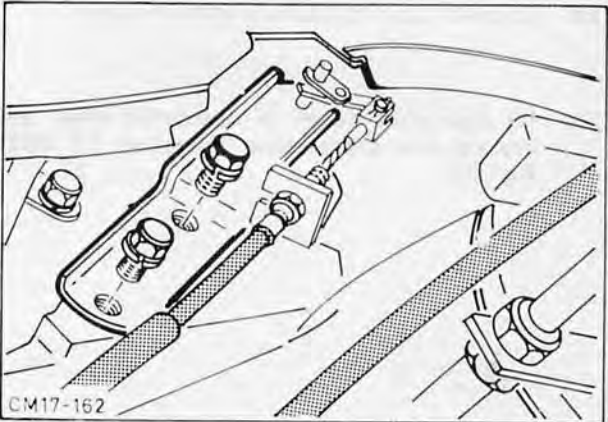

Fig. 30. Fit downshift cable bracket
- 22. Attach downshift cable bracket to engine block, Fig. 30.